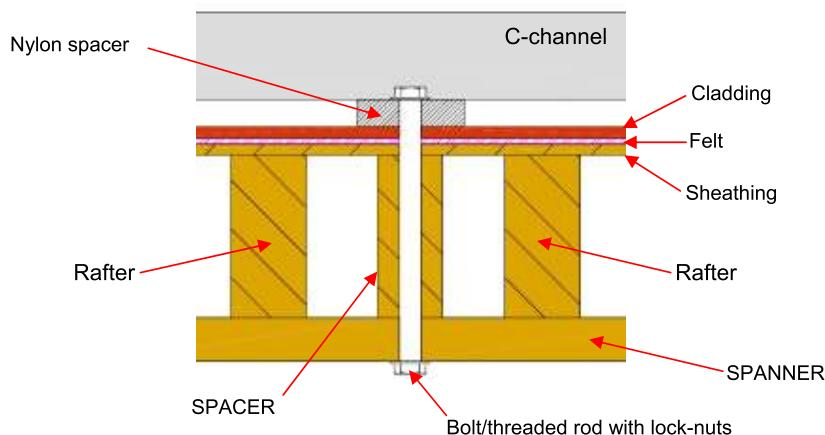

Fig. 5.2.1 – C-channel secured to spanner.
- Metal or wood (2" x 4" min.) spanners may be fixed horizontally across rafters. C-channel can then be secured with bolts or threaded rods (Ø3/8") and lock-nuts instead of lag-bolts (Fig. 5.2.1). Spacers should be used between roof board and spanner to limit bowing and flexing of roof sheathing and spanner.